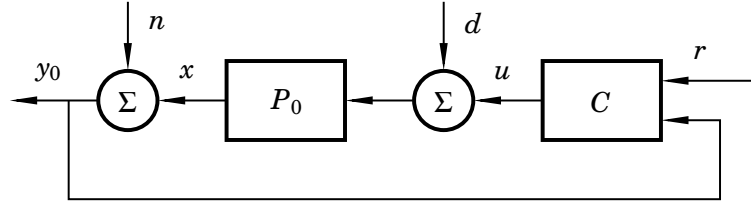
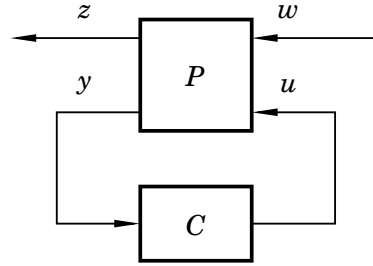

Figure 12.1 The control loop in problem 12.1
Figure 12.2 Desired form of the control loop in problem 12.1
We want to design a controller C for the SISO control loop in Figure 12.1 using Youla parametrization and convex optimization. To do this, the control loop must first be transformed into the standard form of Figure 12.2, where z are the signals that we want to control, y are the signals available to the controller, w are the exogenous inputs and u is the control signal.
- What is the controller input y of Figure 12.2 according to Figure 12.1? What is the size of the transfer function matrix P ?
- Find the transfer function matrix P so that Figure 12.2 and Figure 12.1 describe the same control problem.